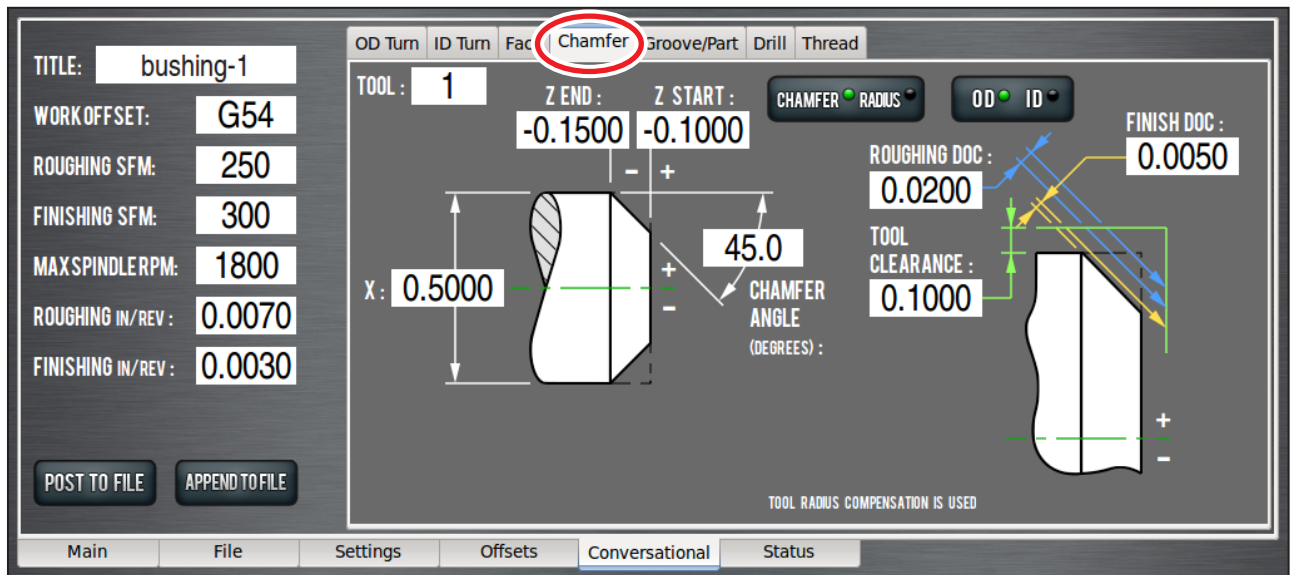

Figure 4.31
1. Click on *Chamfer* tab of the *Conversational* screen. Enter values shown in **Figure 4.31** to put a small chamfer on the part.